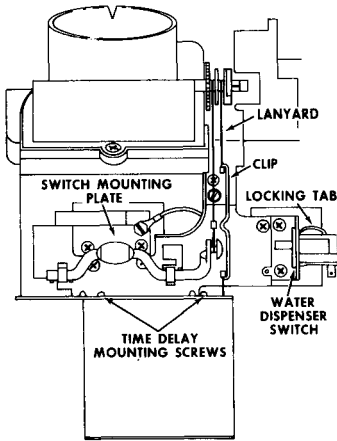

Figure 6 - Rear of Recess
3. Remove the three screws securing the water dispenser switch and plate to the recess. See Figure 6.
2. Remove the screws securing the switch plate to the recess and the ground wire (if used) to the plate. See Figure 6.